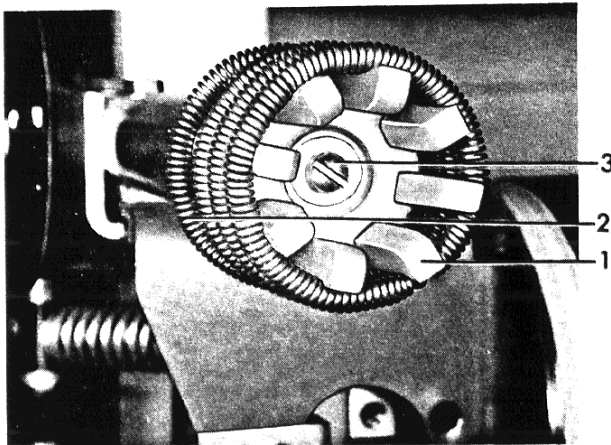

Fig. 25 (8039374) Primary Disconnect Fingers
Refer to Fig. 25. To remove the primary disconnect fingers remove bolt and retainer (3). Slide the front spring (2) to the rear into the contact groove of the finger. The finger cage can now be pulled to the rear.